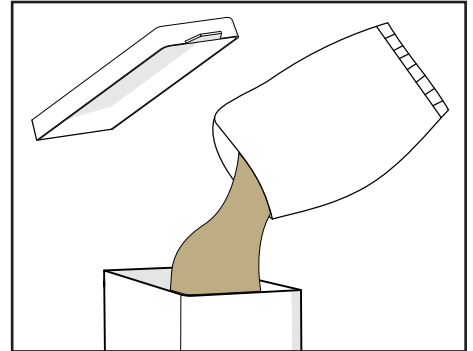

Figure 8.
10. Fill the canisters to a maximum of three-quarters of their capacity (see Figure 8).